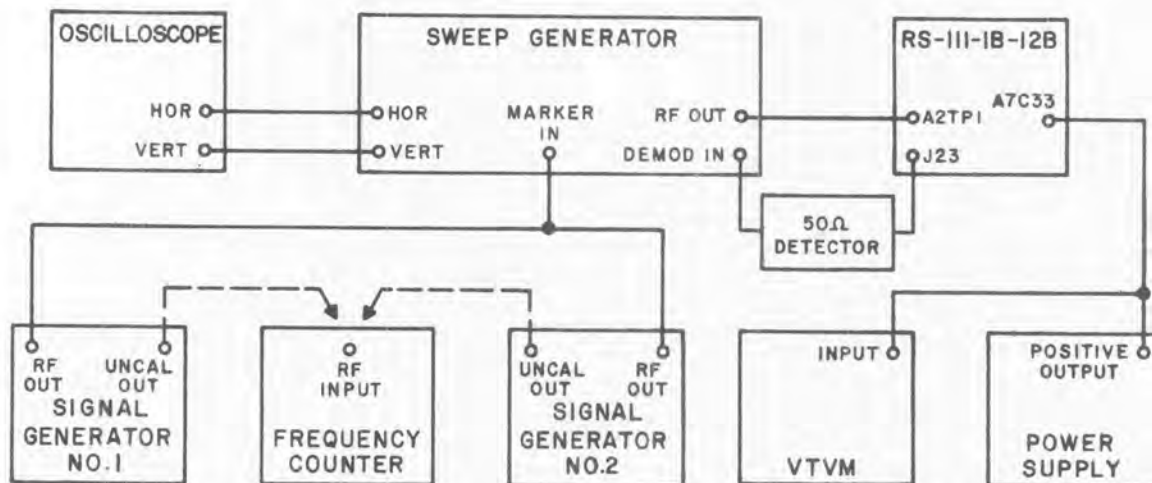

Figure 4-35. Test Setup, 2 mc IF Amplifier/30-60 mc Tuner, Final Alignment
- (1) Connect the equipment as shown in Figure 4-35.